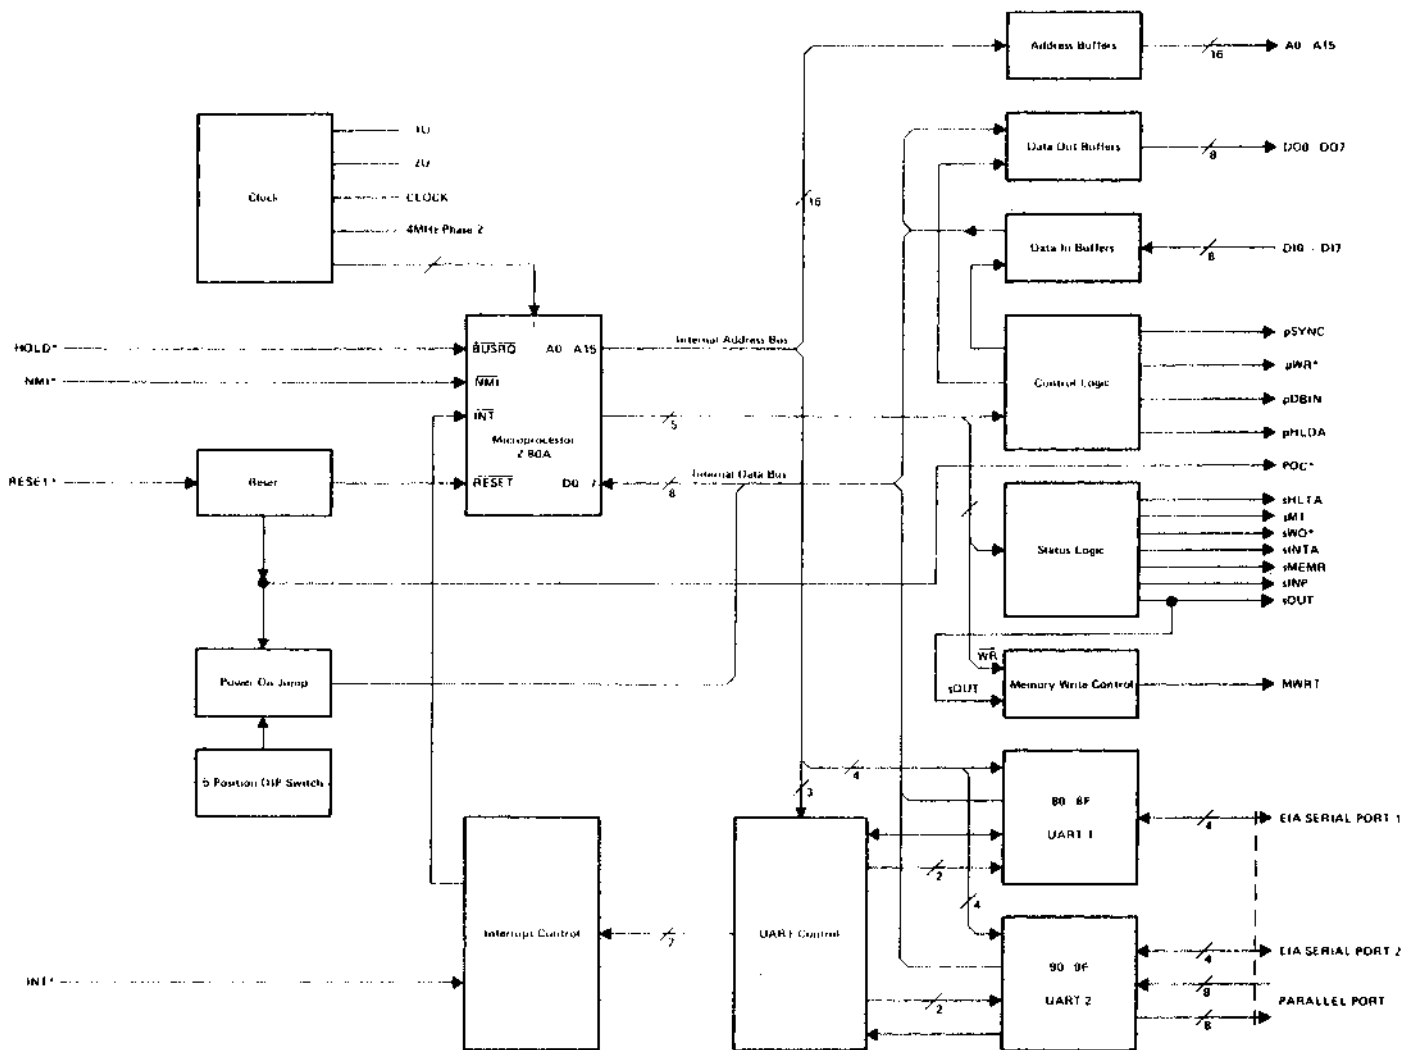

Figure 3-1 – Central Processing Unit Functional Block Diagram
3.02 Figure 3-1 illustrates CPU 803439 in block diagram and should be used in conjunction with the CPU logic diagram in Part 7 for the description which follows. Table 3-1 tabulates the S-100 Bus signals used by the CPU.